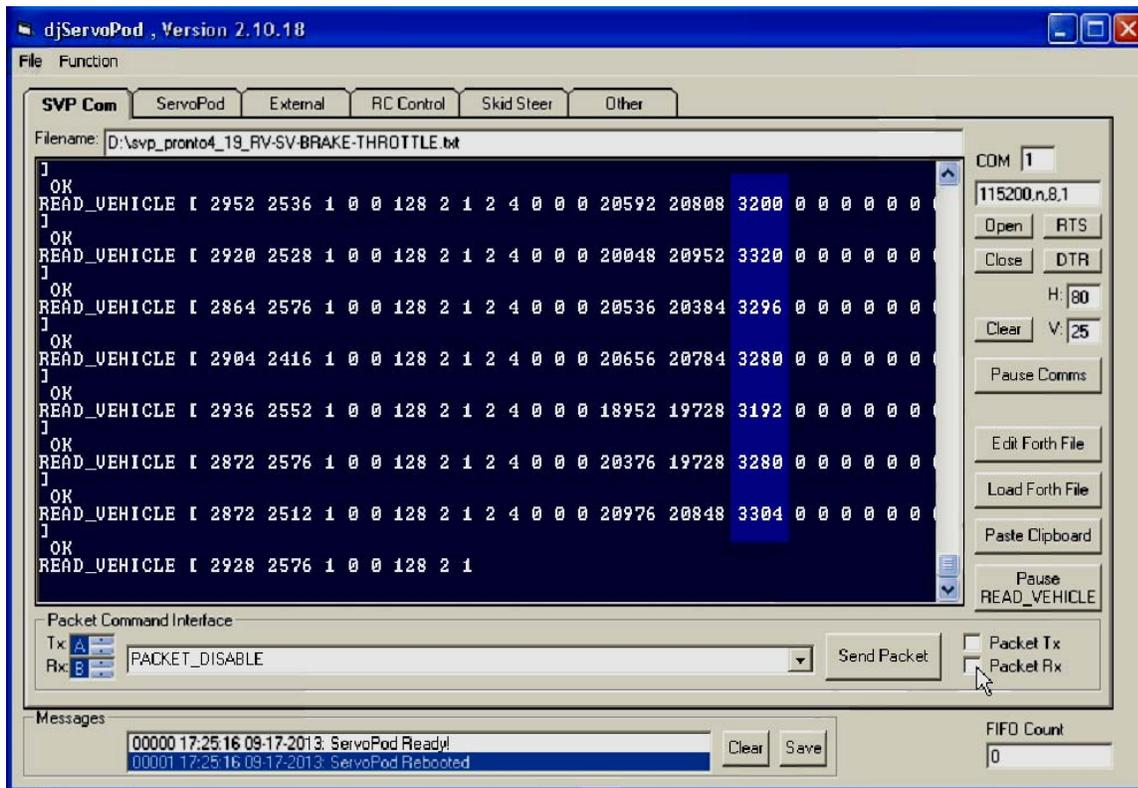

Figure 1: The 16th Field of the Serial Stream
8. Note the value of the 16th field of the steering stream (see Figure 1). The value will change slightly. Note the median value. This is the "potO" value (i.e., the offset value).